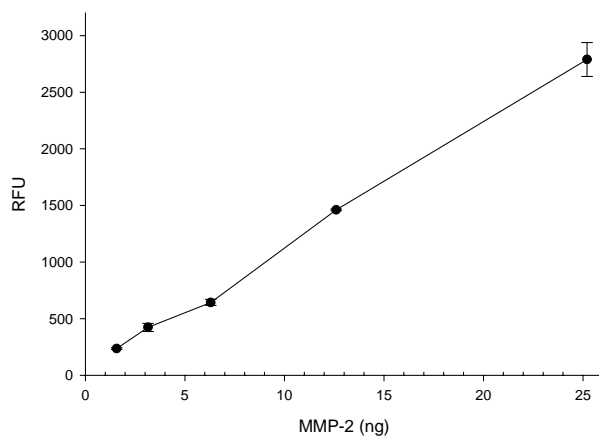

Figure 1. Sensitivity of SensoLyte® 520 MMP-2 assay kit.
- Plot data as RFU versus concentration of test compounds or enzyme concentration (Figure 1).